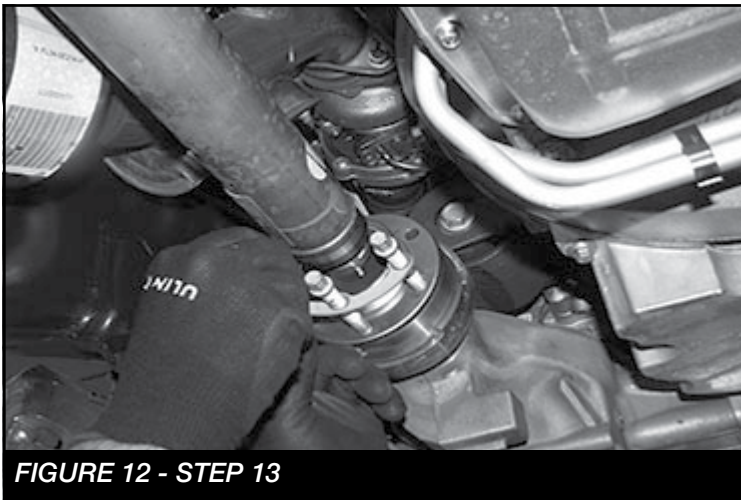

FIGURE 12 - STEP 13
13. Remove the front drive shaft bolts where they attach to the front differential. Support the end of the driveshaft before removing the front differential. **SEE FIGURE 12**